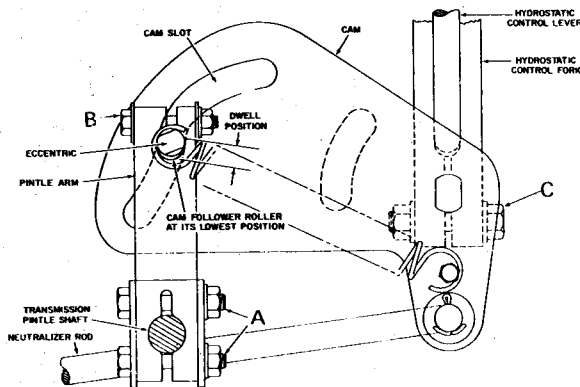

FIGURE 20
4. Loosen clamp bolt B, Figure 20 and 21 a sufficient amount to allow the cam follower to rotate. Turn the eccentric "clockwise" or "counterclockwise" as required until the rear tractor wheels completely stop. Retighten clamp bolt B.
2. Loosen clamp bolt B, Figure 20 and rotate the eccentric until the cam follower roller is at its lowest position parallel to the dwell position of the cam slot as shown in Figure 20. Retighten bolt B. This will assure a maximum fine adjustment range.
NOTE: The dwell position is the length of the cam slot, shown in Figure 20, where no pintle arm movement is encountered when the cam assembly is moved up and down.
3. With the control lever move the cam, Figure 20, up and down until the cam follower roller is centered in the cam dwell position. DO NOT adjust the hydrostatic control shifter fork if the control lever is not in the neutral slot of the console. This is the FINAL adjustment to make.
4. Loosen pintle lever clamp bolts A, Figure 20, a sufficient amount to allow the pintle lever to slip on the pintle shaft. With the control lever in the "park-start" position, start the engine and increase engine speed to between $\frac{2}{3}$ and full throttle. The